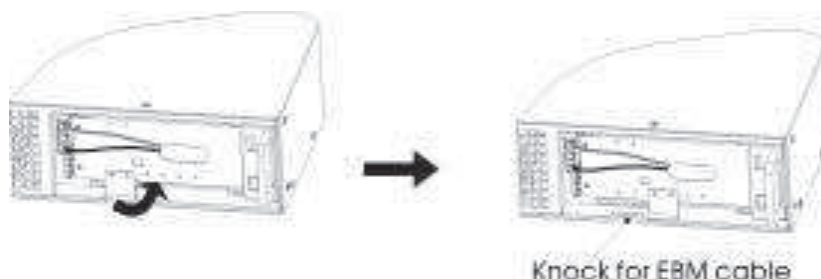

Figure 9 Removing the UPS Cable Knockout
b) On the bottom of the UPS front cover, remove the EBP cable knockout (see Figure 9).